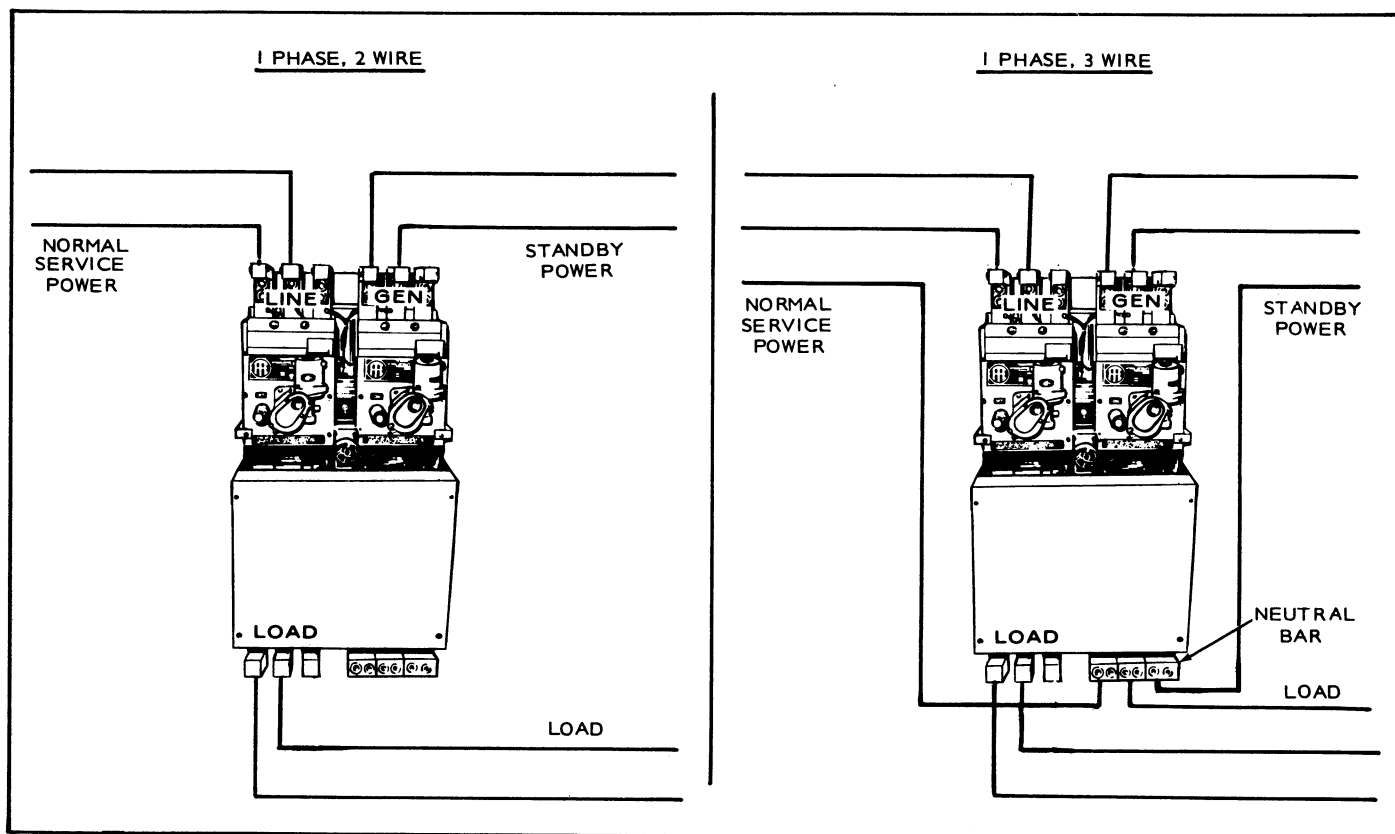

FIGURE 12. SINGLE-PHASE TRANSFER SWITCH CONNECTIONS
1. *Transfer Switch Connections:* Connect wires of sufficient size to carry rated current from the line, load and generator set directly to the transfer switch terminals which are marked A, B, and C (use A and B for single phase). See Figures 12 and 13 for transfer switch connections. Table 1 gives the type and maximum wire size the transfer switch will accept.